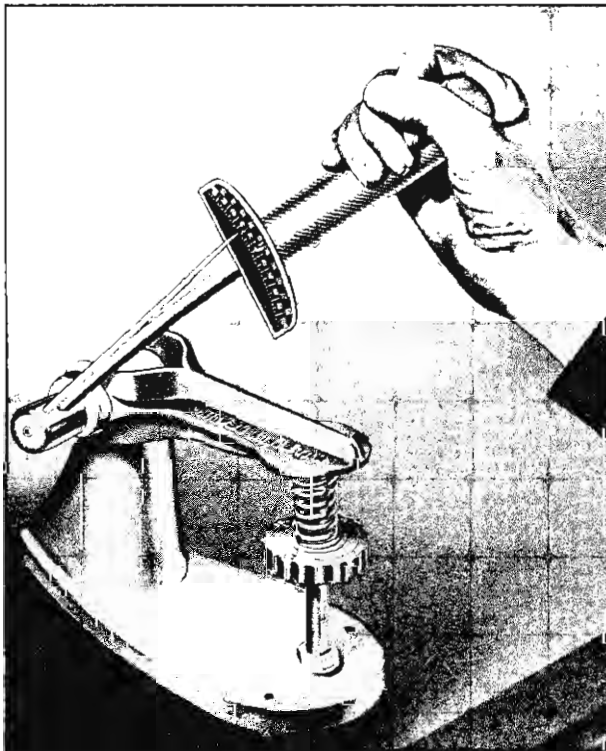

Fig. 9—Valve Spring Tension Gauge
4. Check valve spring tension with Tool J-8056 spring tester (fig. 9).